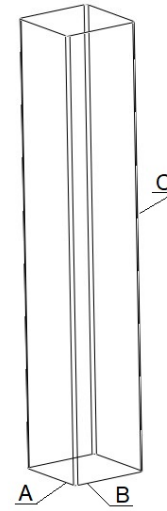

Fig. 1 Diagram of the PSK SADDAR® Eco Anchor and the wood impactor
- prepare the installation kit by inserting the impactor into the shoe of the PSK SADDAR® Eco Anchor (Fig. 1).